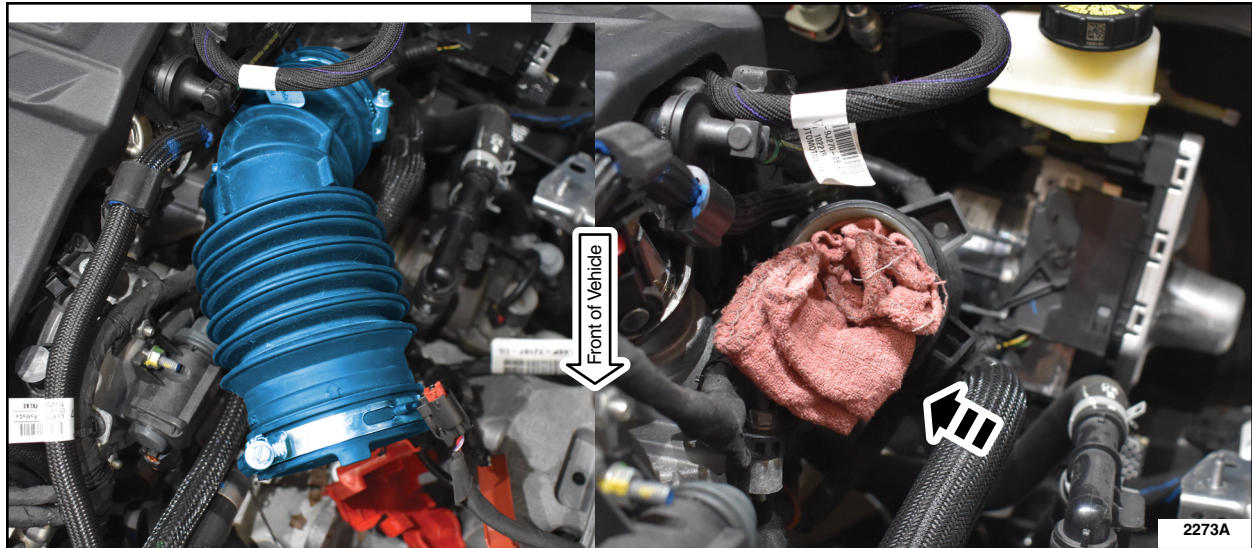

FIGURE 1
4. Remove air cleaner outlet pipe. Use a clean shop towel to cover the opening left behind. See Figure 1.